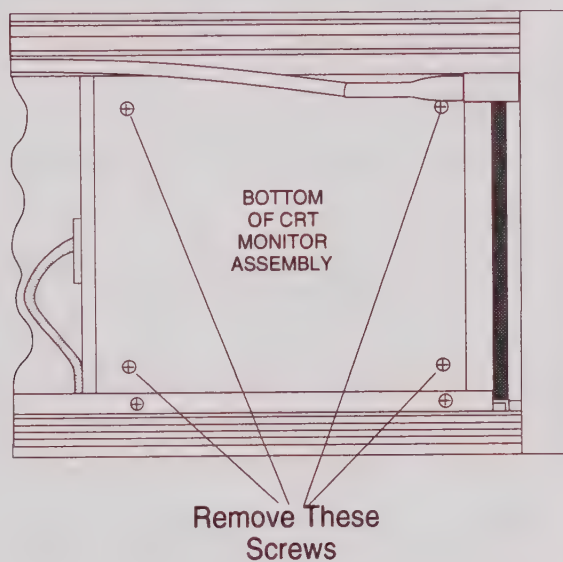

Figure 7-7. CRT Monitor Assembly Removal (Bottom)
- Step 2.** Remove four screws, flat, and lock washers (Figure 7-7).